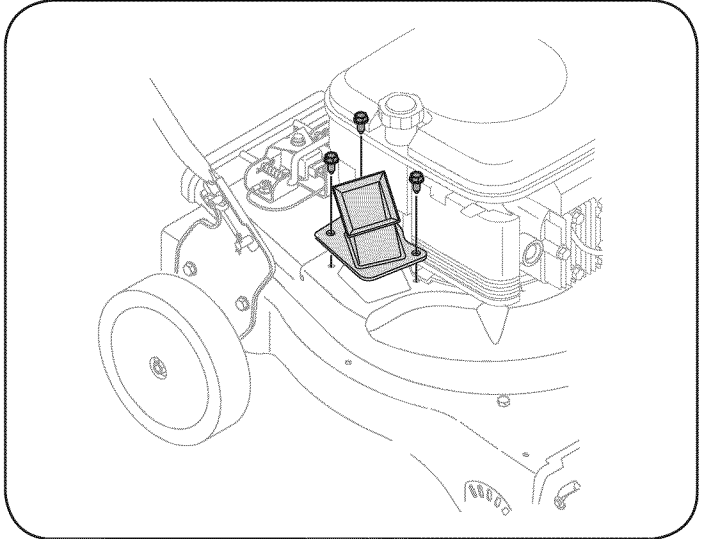

Figure 23
3. Remove the three hex cap screws holding the chipper chute to the upper housing. See Figure 23.